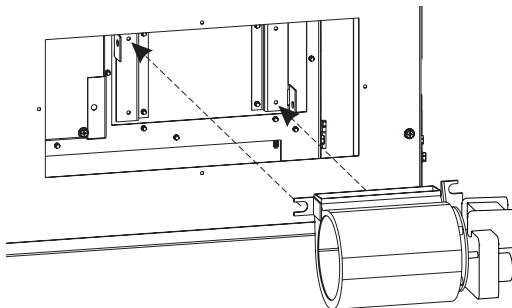

Figure 3
2. Place Blowers onto blower brackets. (**Figure 3**)